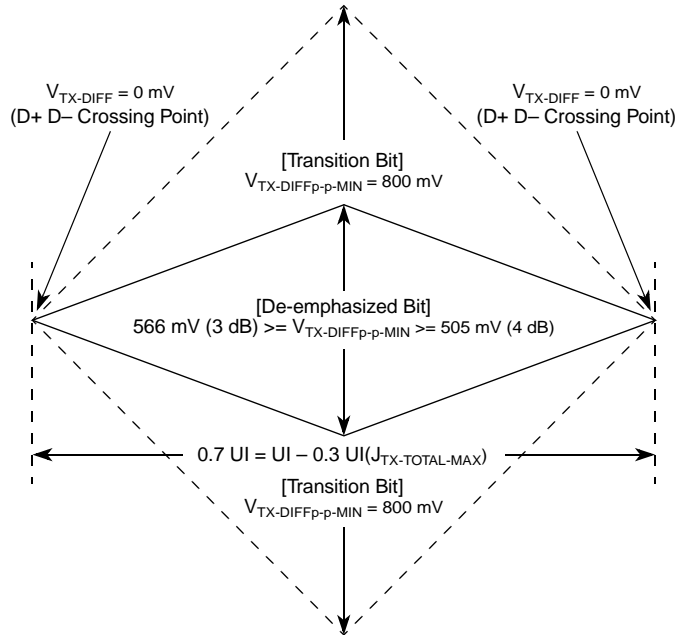
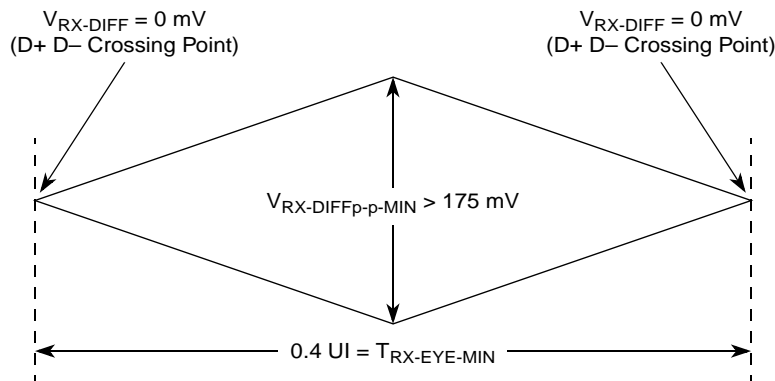
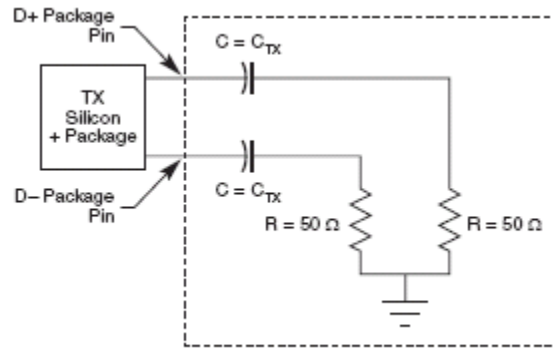

Figure 50. Minimum Transmitter Timing and Voltage Output Compliance Specifications
Figure 51. Minimum Receiver Eye Timing and Voltage Compliance Specification
Figure 52. Compliance Test/Measurement Load
2. Specified at the measurement point into a timing and voltage compliance test load as shown in Figure 52 and measured over any 250 consecutive TX UIs. (Also refer to the transmitter compliance eye diagram shown in Figure 50.)
4. The transmitter input impedance shall result in a differential return loss greater than or equal to 12 dB and a common mode return loss greater than or equal to 6 dB over a frequency range of 50 MHz to 1.25 GHz. This input impedance requirement applies to all valid input levels. The reference impedance for return loss measurements is 50 Ω to ground for both the D+ and D- line (that is, as measured by a vector network analyzer with 50- Ω probes, see Figure 52). Note that the series capacitors, C_{TX} , is optional for the return loss measurement.
5. Measured between 20%–80% at transmitter package pins into a test load as shown in Figure 52 for both V_{TX-D+} and V_{TX-D-} .
The TX eye diagram in Figure 50 is specified using the passive compliance/test measurement load (see Figure 52) in place of any real PCI Express interconnect + RX component. There are two eye diagrams that must be met for the transmitter. Both diagrams must be aligned in time using the jitter median to locate the center of the eye diagram. The different eye diagrams differ in voltage depending on whether it is a transition bit or a de-emphasized bit. The exact reduced voltage level of the de-emphasized bit is always relative to the transition bit.
2. Specified at the measurement point and measured over any 250 consecutive UIs. The test load in Figure 52 should be used as the RX device when taking measurements (also refer to the receiver compliance eye diagram shown in Figure 51). If the clocks to the RX and TX are not derived from the same reference clock, the TX UI recovered from 3500 consecutive UI must be used as a reference for the eye diagram.
4. The receiver input impedance shall result in a differential return loss greater than or equal to 15 dB with the D+ line biased to 300 mV and the D- line biased to -300 mV and a common mode return loss greater than or equal to 6 dB (no bias required) over a frequency range of 50 MHz to 1.25 GHz. This input impedance requirement applies to all valid input levels. The reference impedance for return loss measurements for is 50 Ω to ground for both the D+ and D- line (that is, as measured by a vector network analyzer with 50- Ω probes, see Figure 52). Note that the series capacitors, C_{TX} , is optional for the return loss measurement.
The RX eye diagram in Figure 51 is specified using the passive compliance/test measurement load (see Figure 52) in place of any real PCI Express RX component. In general, the minimum receiver eye diagram measured with the compliance/test measurement load (see Figure 52) is larger than the minimum receiver eye diagram measured over a range of systems at the input receiver of any real PCI Express component. The degraded eye diagram at the input Receiver is due to traces internal to the package as well as silicon parasitic characteristics which cause the real PCI Express component to vary in impedance from the compliance/test measurement load. The input receiver eye diagram is implementation specific and is not specified. RX component designer should provide additional margin to adequately compensate for the degraded minimum Receiver eye diagram (shown in Figure 51) expected at the input receiver based on an adequate combination of system simulations and the return loss measured looking into the RX package and silicon. The RX eye diagram must be aligned in time using the jitter median to locate the center of the eye diagram.
The reference impedance for return loss measurements is $50\ \Omega$ to ground for both the D+ and D- line (that is, as measured by a Vector Network Analyzer with $50\ \Omega$ probes—see Figure 52). Note that the series capacitors, $C_{PEACCTX}$, are optional for the return loss measurement.
The AC timing and voltage parameters must be verified at the measurement point, as specified within 0.2 inches of the package pins, into a test/measurement load shown in Figure 52.